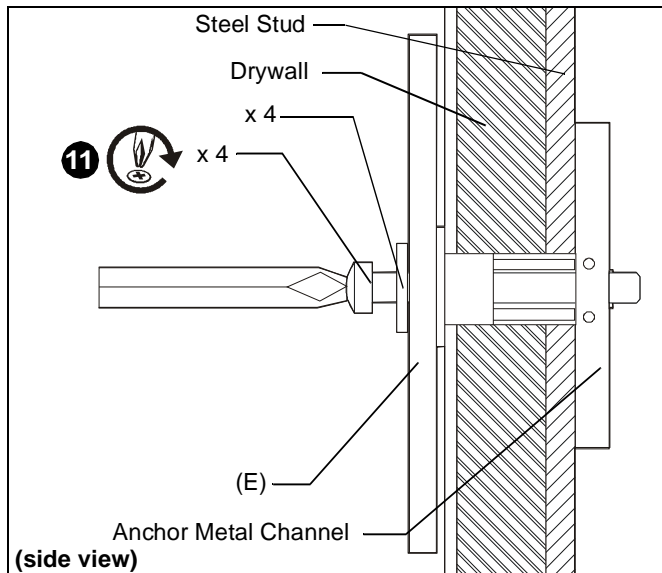

Figure 8
10. Place wall plate (E) over anchors and align mounting holes in wall plate with holes in anchors. (See Figure 8)
11. Insert Grade 2 or better 1/4-20 x 1-3/4" Phillips pan head screws (not included) through Grade 2 or better 1/4" washer (not included), corresponding mounting hole on wall bracket and into Snap-Toggle (not included) and tighten until flush against mount. DO NOT overtighten! (See Figure 8)